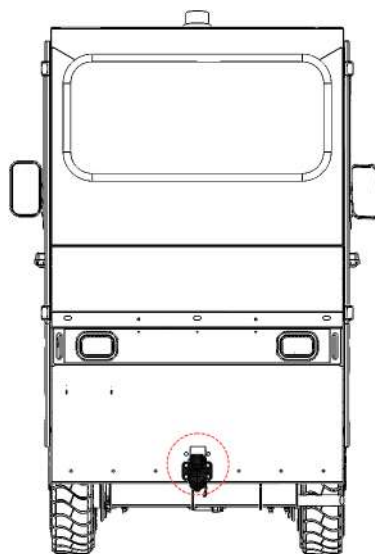

Figure 41. Hitch Mounting.
- Hitch mounting area (see Figure 41).